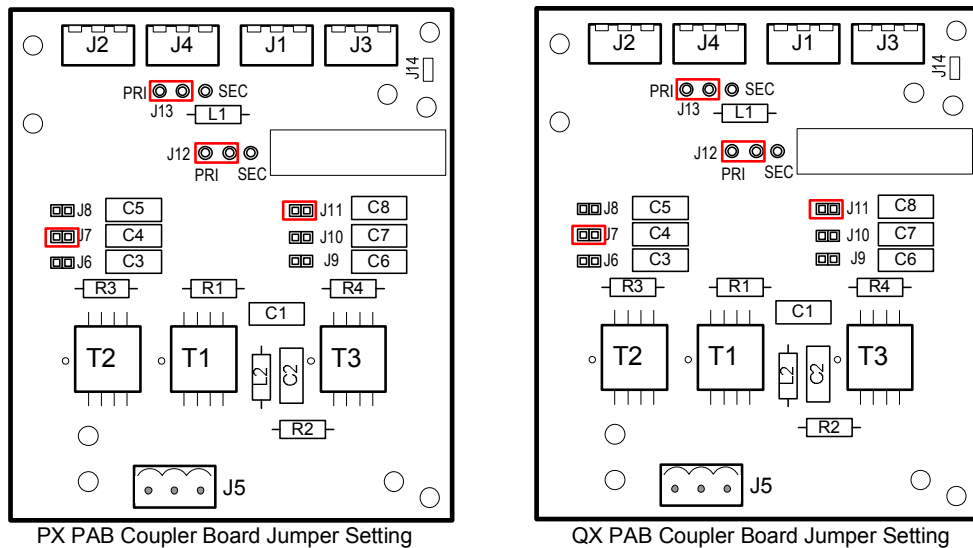

Figure 17 PAB Coupler Board Jumper Settings
- Step 2:** Cut, strip and terminate the RG59 coax cable, then plug it to the coupler board. Check the coupler board jumper settings (see *Figure 17 PAB Coupler Board Jumper Settings*).
- Step 6:** Inspect wiring and connections, confirm coupler board jumper settings (see *Figure 17 PAB Coupler Board Jumper Settings*).
- Step 8: Inspect wiring and connections, confirm coupler board jumper settings (see *Figure 17 PAB Coupler Board Jumper Settings*).